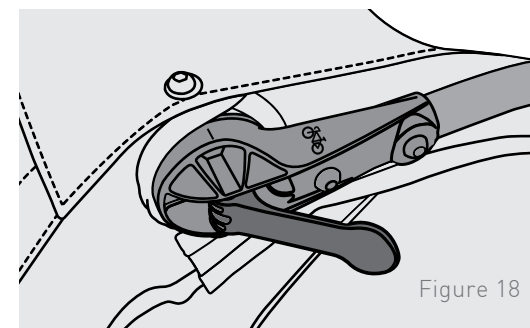

Figure 18
1. **Tow mode:** Always rotate the handlebar forward when trailer is in towing mode (Figure 17A). The handlebar should be horizontal and parallel to the ground, such that the mark on the handlebar is aligned with the bolt that attaches the cover (Figure 18).
2. **Stroll / Jog mode:** The handlebar may be rotated to serve as a handlebar while trailer is in strolling or jogging mode (Figure 17B). Open lever to rotate (Figure 18) and close lever to lock in place.